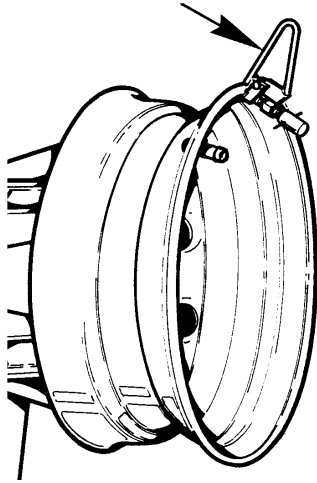

Fig.24
1. Liberally lubricate the entire inner surface of the rim and the tire beads. Attach the mounting clamp (Fig.24) to the outer rim flange with the valve at 11 o'clock and the clamp at 12 o'clock.